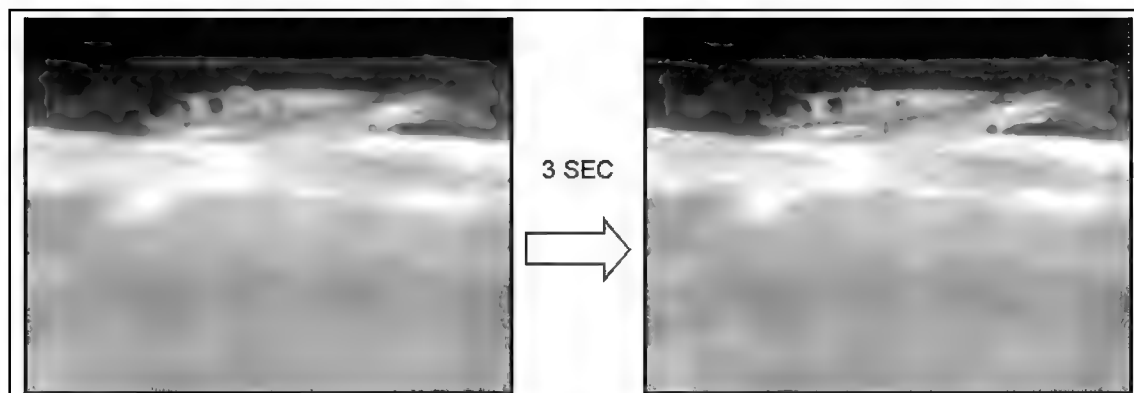

Figure E-15. Slow focus adjustment.
- Minor adjustments. When the gunner presses and releases the focus switch in either direction, the focus adjusts at slow speed (Figure E-15). This procedure allows for fine tuning the focus for a specific object.